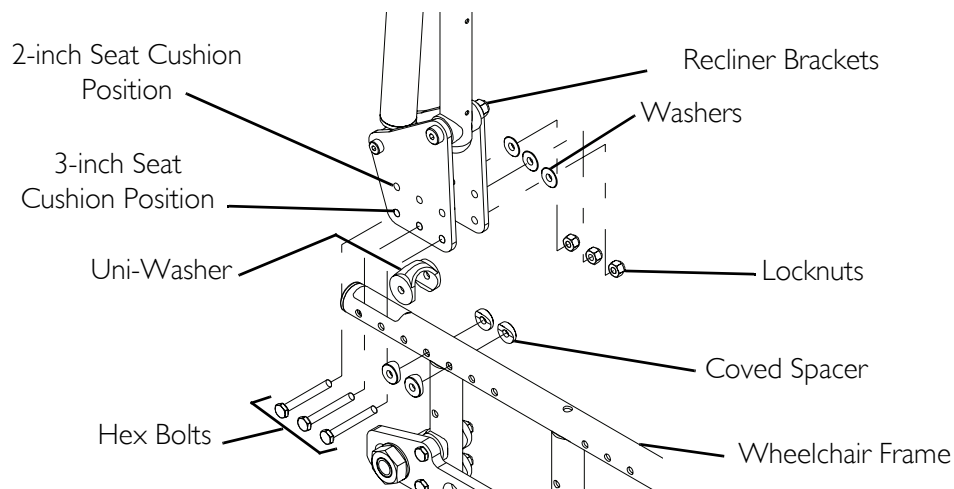

FIGURE 7.12 Repositioning the Back- 2 or 3-inch seat cushion (recliners only)
NOTE: For this procedure, refer to FIGURE 7.12.
3. Refer to FIGURE 7.12 to determine the recliner bracket mounting position for the corresponding seat cushion height.
5. Reinstall the hex bolts, spacers, washers and locknuts through the recliner brackets and wheelchair frame and tighten securely. Refer to FIGURE 7.12 for correct hardware orientation.